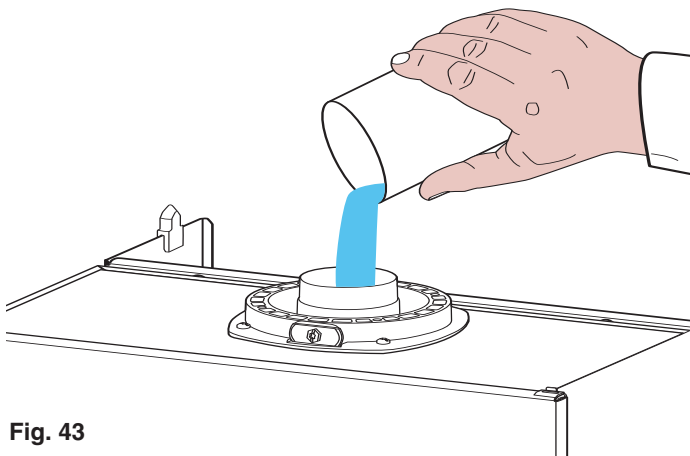

Fig. 43
2. **Fill the condensate trap with water, by pouring 1/2 litre of water into the exhaust flue connector (see Fig. 43). N.B. In the event of a prolonged period of system shutdown, the condensate trap should be filled before any renewed use. A shortage of water in the trap could possibly lead to a temporary leakage of fumes into the air, until it refills itself;**